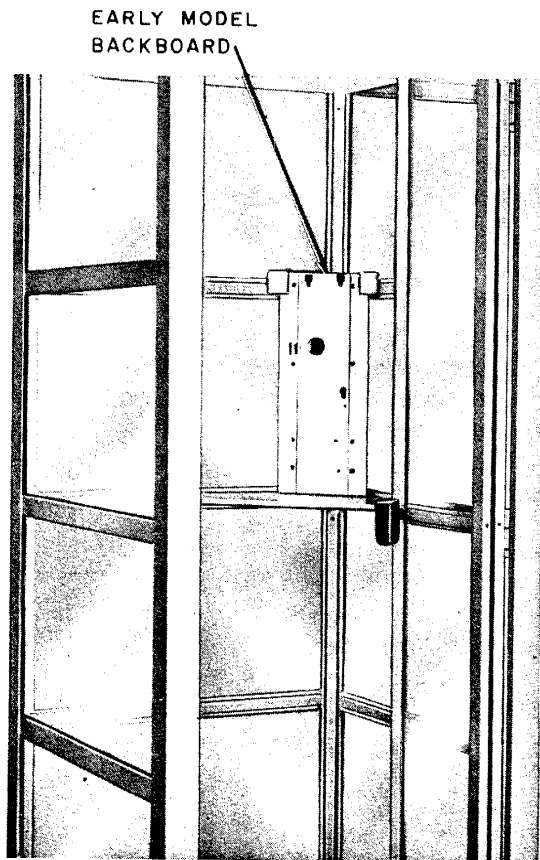

Fig. 5—KS-16797 Universal Booth with Early Version Backboard
- Early models (Fig. 5) are too short for the 1A-type coin telephone and must be replaced.